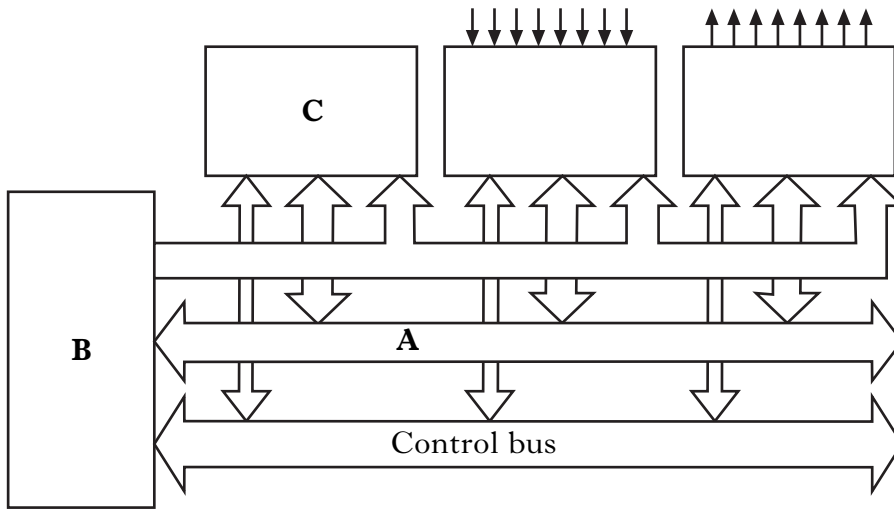

Figure Q2
2. The diagram in Figure Q2 shows the basic architecture of a microcontroller. Some elements have been labelled with the letters A to C.
- (a) Which row in the Table Q2(a) correctly lists the names of the elements labelled A, B and C in Figure Q2.